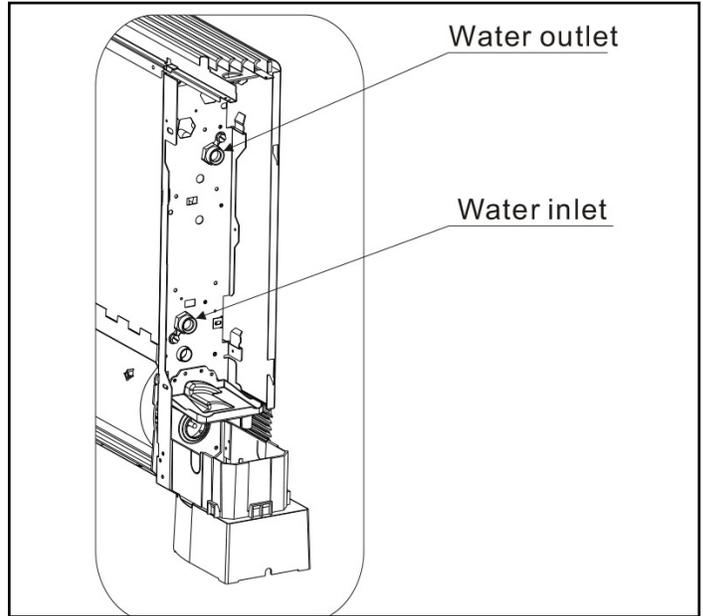

**Figure 10 - Mounting Feet Locations**
d. Use four (4) screws on each foot to properly install the feet to the fan coil. See Figure 10.